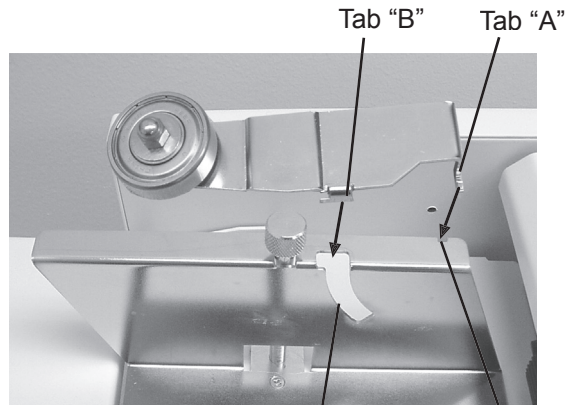

Fig. 14
2. Attach the cross fold paper guide onto the feed tray paper guide (Fig. 14) and lower guide.